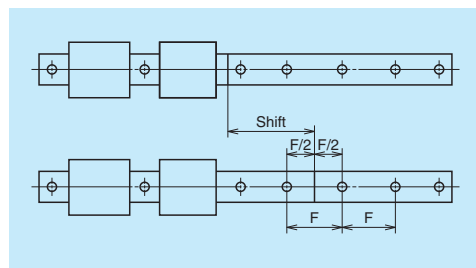

Fig. 10.26
- The pitch of the rail mounting hole on the butting section should be as F in Fig. 10.26. When two rails are used in parallel, the butted sections should not align. This is to avoid change in the running accuracy of the table at the butted sections.